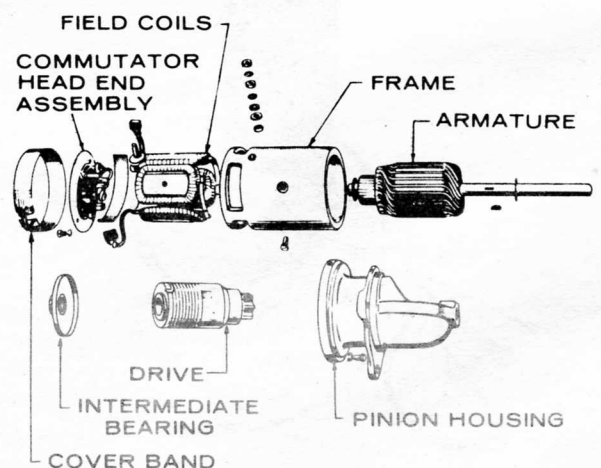

FIGURE 27. GEAR DRIVE STARTER
6. **Gear Drive Starter Only:** The entire assembly is mounted on the armature shaft. When disassembling the starter, pay particular attention to the various parts and their positioning in the starter assembly, Figure 27. If the gears of the pinion are damaged, replace the entire pinion. Inspect the screw shaft for rust and burrs.